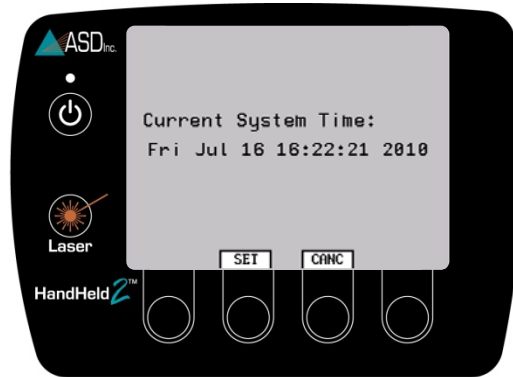

Figure 2-39: Set System Time
- Step 3 Press the *SET* button to set the time (Figure 2-39).